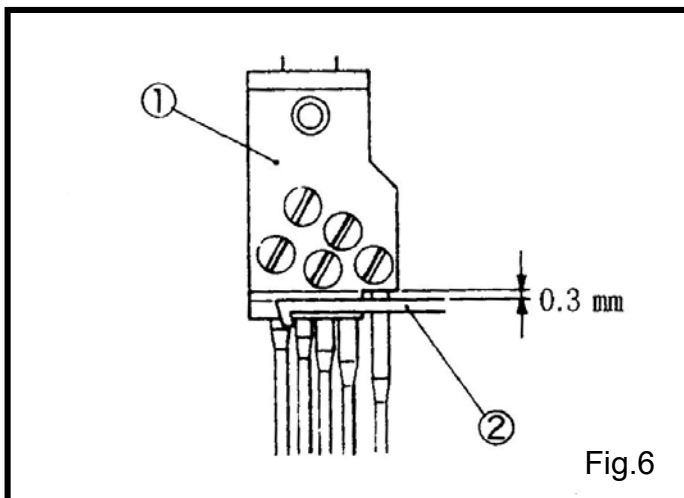

Fig.6
2. 當針柱在最低位置和壓腳完全抬舉時，針鉤①和上網線勾②需留間隙 0.3mm。(Fig.6)
2. As standard, make the clearance between the notch of the needle clamp① and the top cover thread hook② to 0.3mm when the needle bar is at the lowest point and the presser foot is raised by pressing the presser foot pedal fully. (Fig. 6)